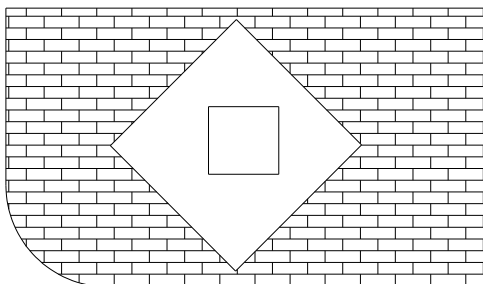

Figure 15.2: Hatching using the Outermost hatching type.
- Outermost – toggle this on to hatch only the first boundary (see Figure 15.2).